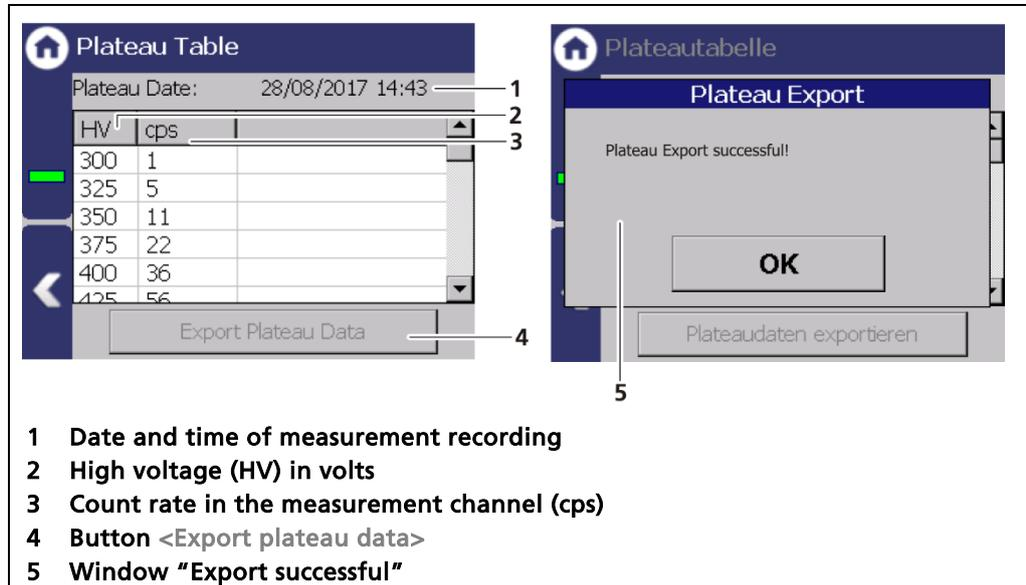
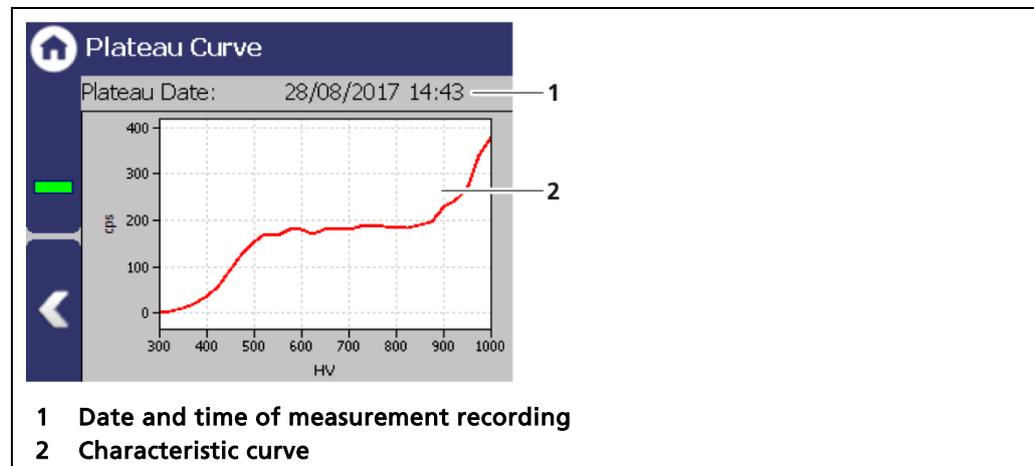

Fig. 66 Plateau Table
Fig. 67 Plateau Curve
- ▶ The recorded values are read and entered into the table (Fig. 66), the plateau curve (Fig. 67) is drawn and stored automatically.
2. Click on the button <Export plateau data> (Fig. 66, item 4).
The mapped characteristic curve (Fig. 67, item 2) of the last complete plateau measurement is displayed in the submenu "Plateau curve".